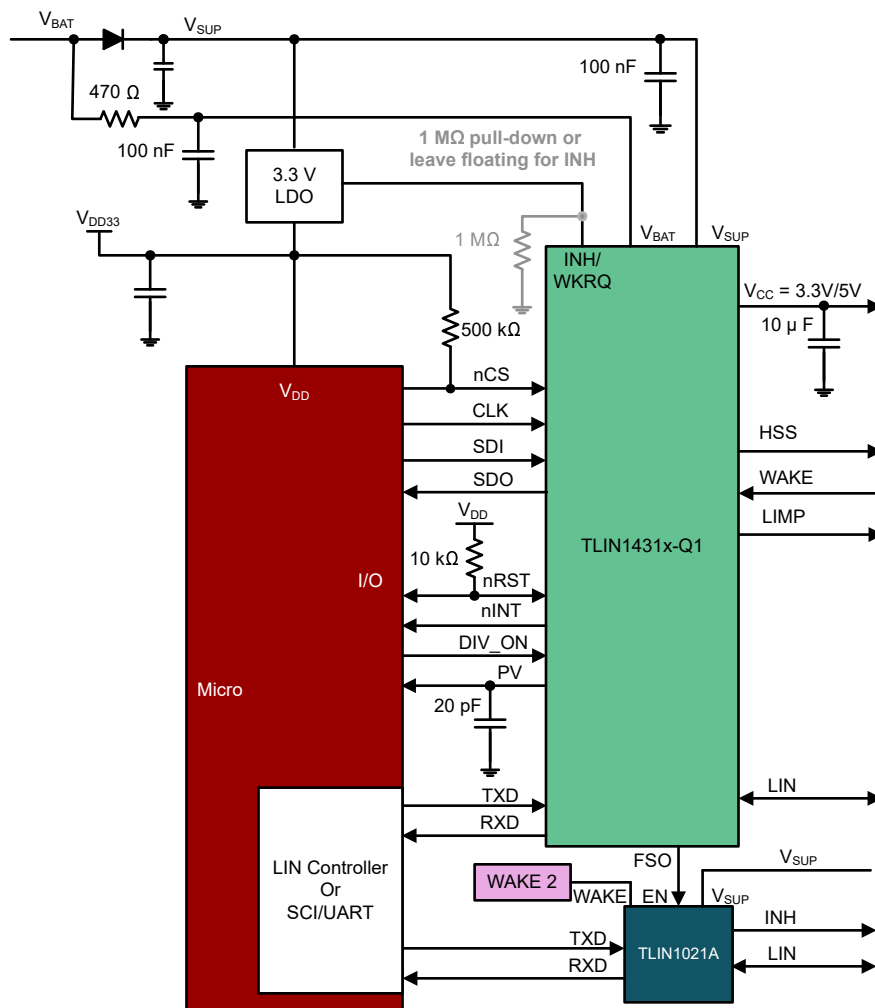

Figure 8-20. Channel Expansion: Enhanced LIN Transceiver
- Two LIN transceivers with two WAKE and INH capability by using an enhanced eight pin LIN transceiver (see Figure 8-20)